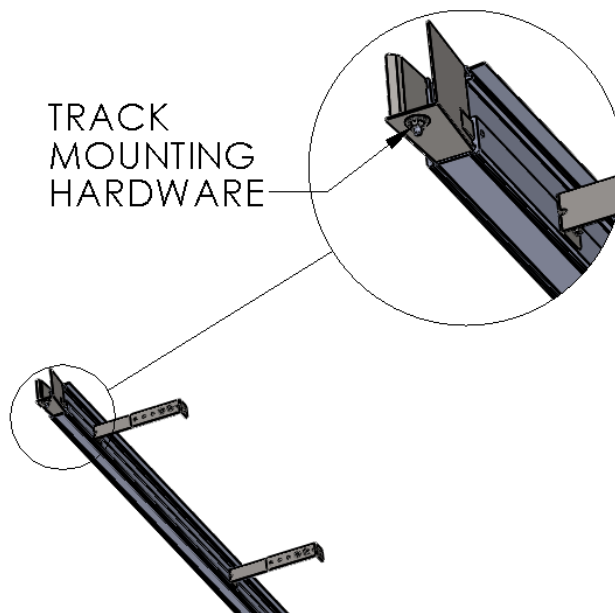

Figure 13 TRACK MOUNTING HARDWARE
1. Starting with either left or right side, loosely “hang” the track assembly by its Track Mounting Hardware. Setup and generally align the track under its respective Roll Assembly Mount Bracket. (Figure 13 TRACK MOUNTING HARDWARE (Figure 13 TRACK MOUNTING HARDWARE))